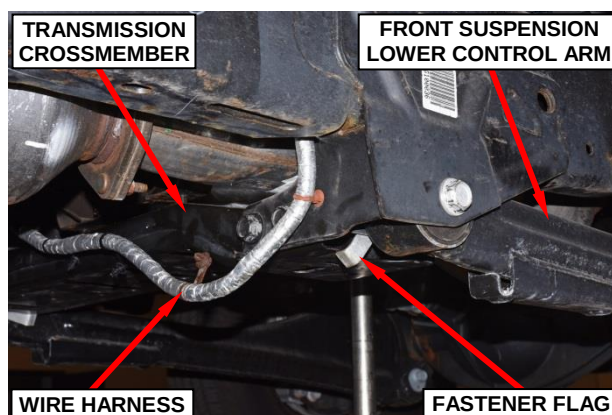

Figure 9 – Fastener Flag Interference
16. For transmission crossmember removal clearance, the right side front suspension lower control arm fastener flag (Figure 9) must be positioned out of the way by following these steps: